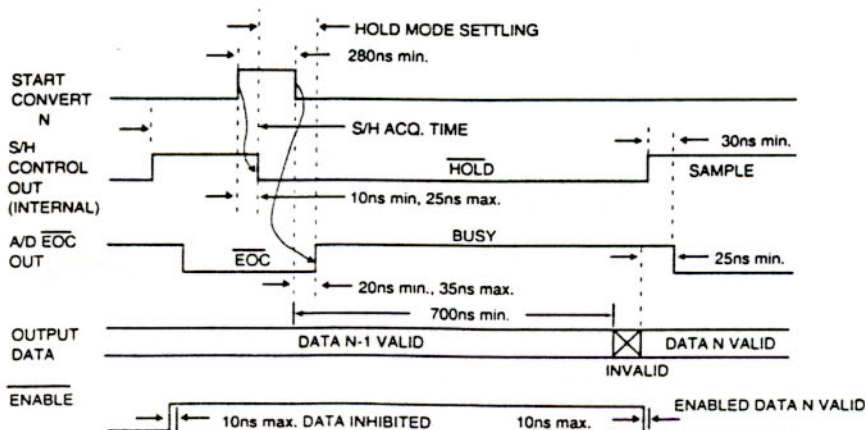

Figure 2. ADS-928 Timing Diagram
7. The specifications listed in Figure 2 (timing diagram) apply over the full operating temperature range unless otherwise specified.